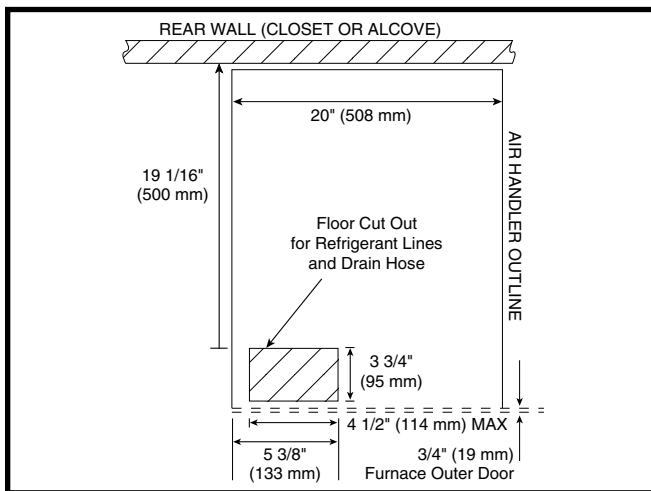

Figure 1. Location of Floor Cut-Out for Refrigerant Lines & Drain Hoses
3. If needed, make a plate to adapt the coil to the air discharge opening. See Figure 1 for coil dimensions.
8. Cut the floor opening for the refrigerant lines and drain line. See Figure 1.
2. Remove the knockout in the left bottom corner of the furnace and cut an appropriately sized hole in the floor. See Figure 1. **NOTE:** For the optional cabinet, refer to its installation instructions for assembly details.